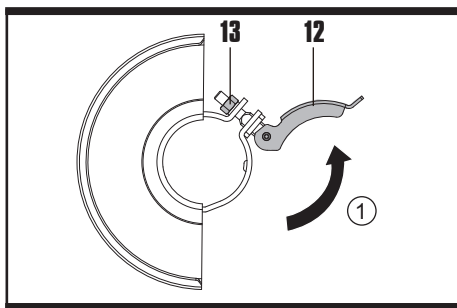

Fig.D1
- 12. Guard clamping lever (See Fig. D1)
- 13. Clamp adjustment screw (See Fig. D1)